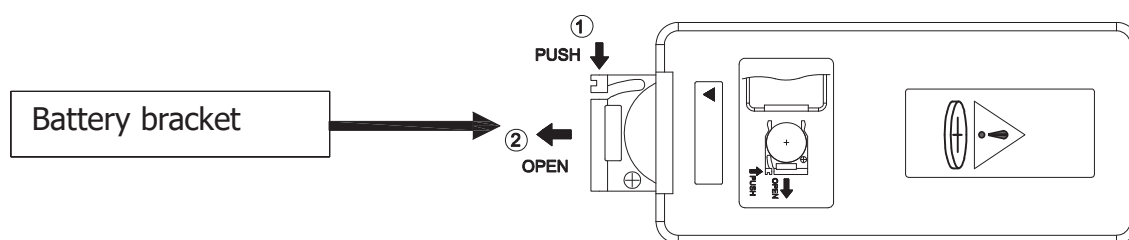

Figure 1
1. Take out battery bracket, and locate the battery bracket (Figure 1)